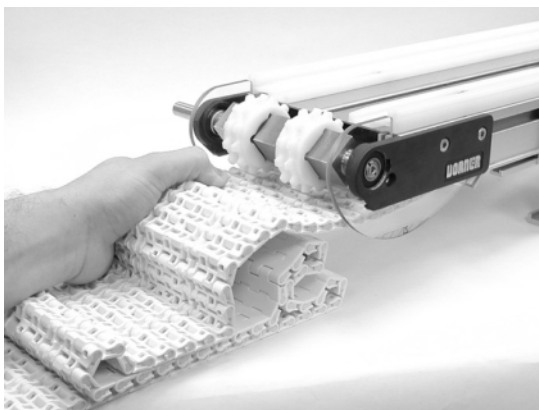

Figure 20
5. Remove belt by pulling belt out of bottom wear strips. See figure 20.